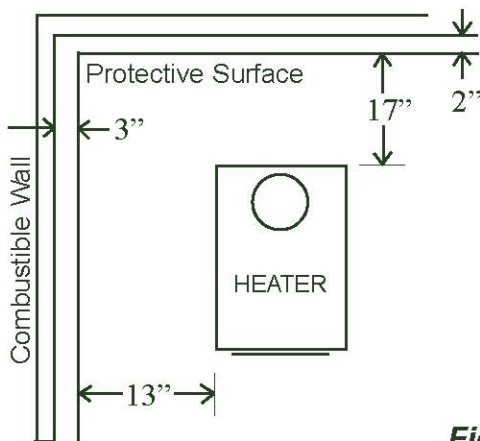

Figure 2
It is a mistake to assume that sheet metal, masonry, or asbestos board placed directly against a wall protect it. Materials installed in this manner give very little protection. These materials are good heat conductors, so they will be almost as hot on their backside as well as on the exposed side. Therefore, the combustible wall behind is still a fire hazard. A wall can be kept cool using ¼" cement asbestos board but only if it's mounted and spaced out from the wall as shown in *Figure 2* to allow free circulation of room air behind the protective panel. Circulating air keeps the wall cool by carrying the heat from the space
*The wall protection indicated in this chart is illustrated in *Figures 2 and 3*.